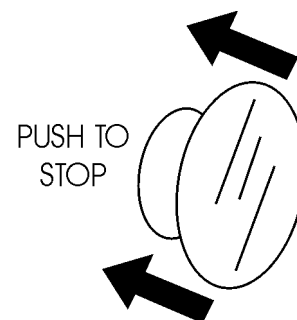

Figure 16. Start/Stop Button (Stop Position)
1. Push the main start/stop switch (Figure 16) inward to stop the engine.